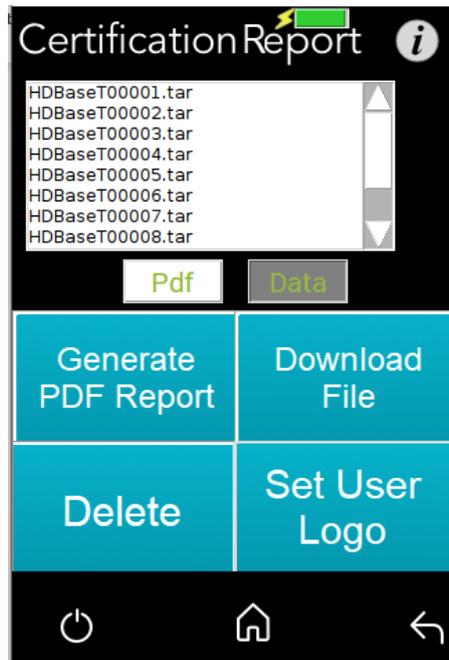

Figure 37: Certification Report Data File Options
4. Insert a USB memory stick into one of the USB ports of the MU-M4SOL device. Select a report data file or files from the list as shown in Figure 37, and tap **Download** to save the file to the memory stick. Wait until the following message disappears: